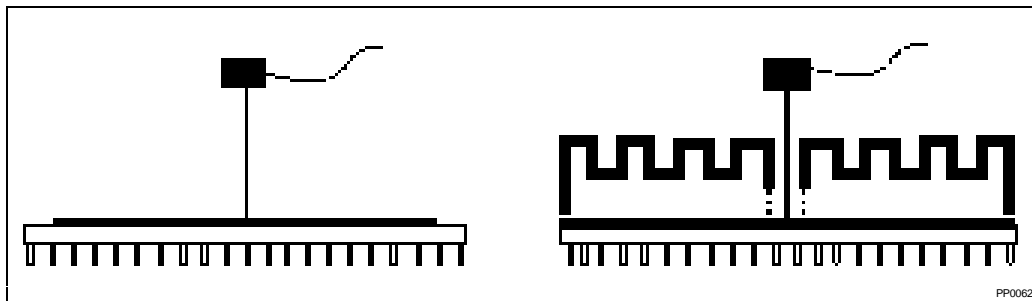

Figure 26-1. Technique for Measuring T_C *
To verify that the proper T_C (case temperature) is maintained, it should be measured at the center of the package top surface on the heat spreader (opposite of the pins). The measurement is made in the same way with or without a heat sink attached. When a heat sink is attached a hole (smaller than .150" diameter) should be drilled through the heat sink to allow probing the center of the package. See Figure 26-1 for an illustration of how to measure T_C .
- The thermocouple should be attached at a 90-degree angle as shown in Figure 26-1.